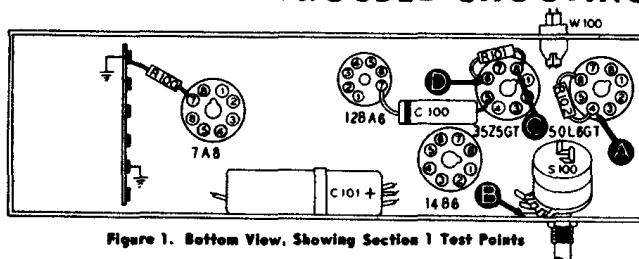

Figure 1. Bottom View, Showing Section 1 Test Points
2. Measure the resistance between B+ (test point C) and B— (test point B). See figure 1. When the ohmmeter test leads are connected in the proper polarity, the highest resistance reading will be obtained. If the reading is lower than 1500 ohms, check condensers C101A, C101B, C101C, and C203 for leakage or shorts. The resistance value given is much lower than normal, and is not intended as a quality check of these condensers; the value given is the lowest at which the rectifier will operate safely while the voltage checks of Section 1 (power supply) are performed.